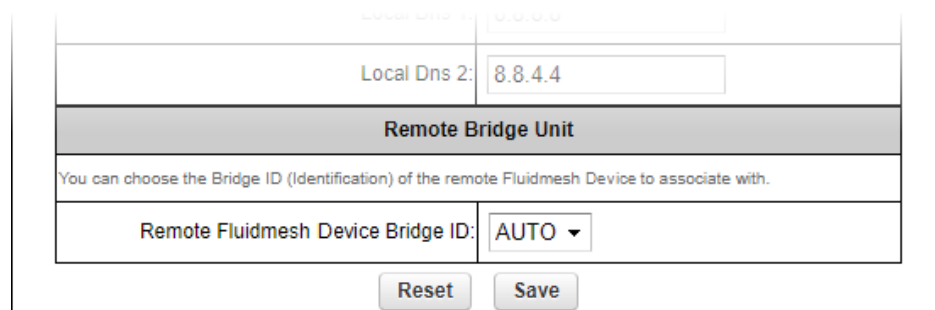

Figure 22. General Mode window (Remote Bridge Unit section)
1. Click the **Remote [Unit model] Bridge ID:** drop-down (Figure 22 \(page 61\)).